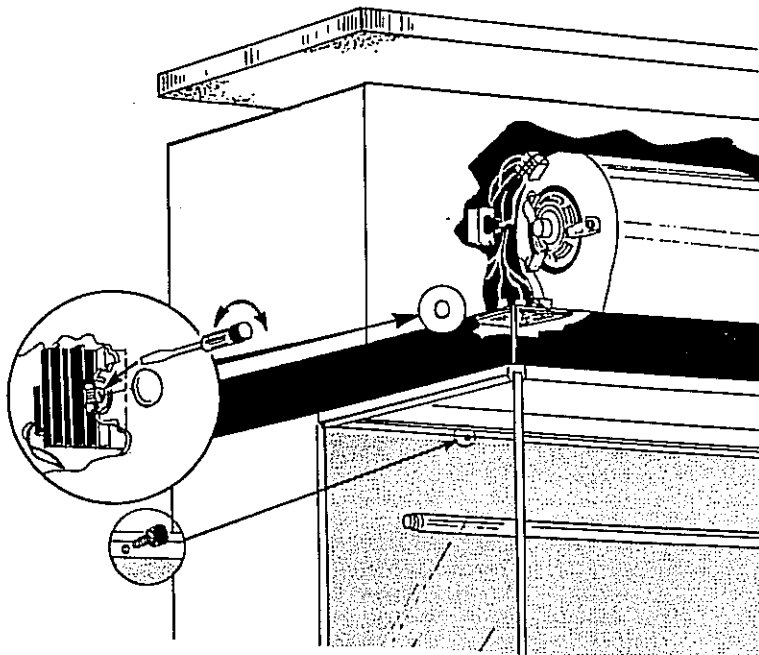

Figure 10
- (1) Locate and remove the plastic hole plug on the bottom of the blower housing, directly above the canopy.
- (2) Using a medium sized, straight blade screwdriver, turn the speed control screw clockwise to increase the blower(s) speed, as shown in Figure 10.
- (3) After completing the speed control adjustment, establish the average air velocity, using a calibrated anemometer with an accuracy of  $\pm 3\%$ . Establishing a boundary of 6" from the sides, top, and bottom, measure the velocities in 6" increments, 6" in front of the diffuser. This method is defined more fully in IES Recommended Practice #IES-RP-CC-002-86.
- (4) The average velocity should be 90  $\pm 10$  FPM, with all measured values falling within  $\pm 20\%$  of the average.
- (5) Replace the plastic hole plug.